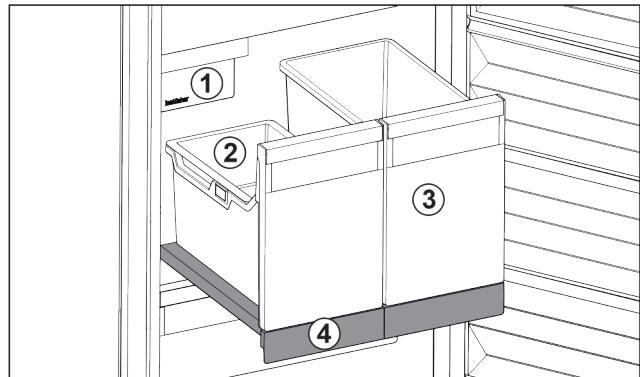

Fig. 99 Pull-out board with IceTower
- (2) Hang-on tray for ice cubes
- (4) Pull-out board
There are two high (IceTower) containers on the pull-out board. Ice cubes from the IceMaker are collected and stored in the Fig. 99 (2) container. The container Fig. 99 (3) is suitable for storing tall foodstuffs or beverages such as pizzas or alcoholic drinks.